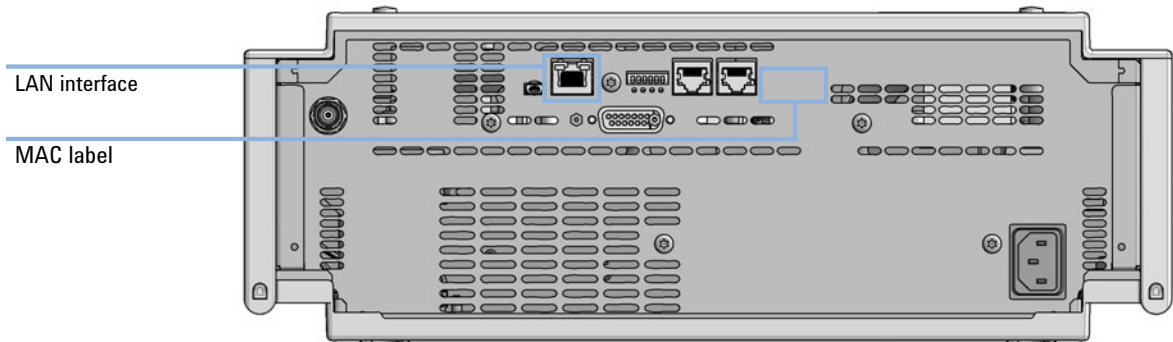

Figure 24 Location of LAN interfaces and MAC label
- 1 Note the MAC (Media Access Control) address for further reference. The MAC or hardware address of the LAN interfaces is a world wide unique identifier. No other network device will have the same hardware address. The MAC address can be found on a label at the rear of the module underneath the configuration switch (see Figure 24 on page 200).
- 2 Connect the instrument's LAN interface (see Figure 24 on page 200) to